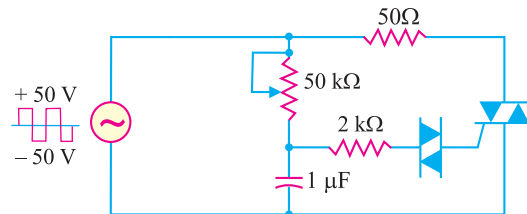

Fig. 21.35
7. If the triac of Fig. 21.35 has 1 V across it when it is conducting, what is the maximum current through the 50Ω ? [0.98 A]